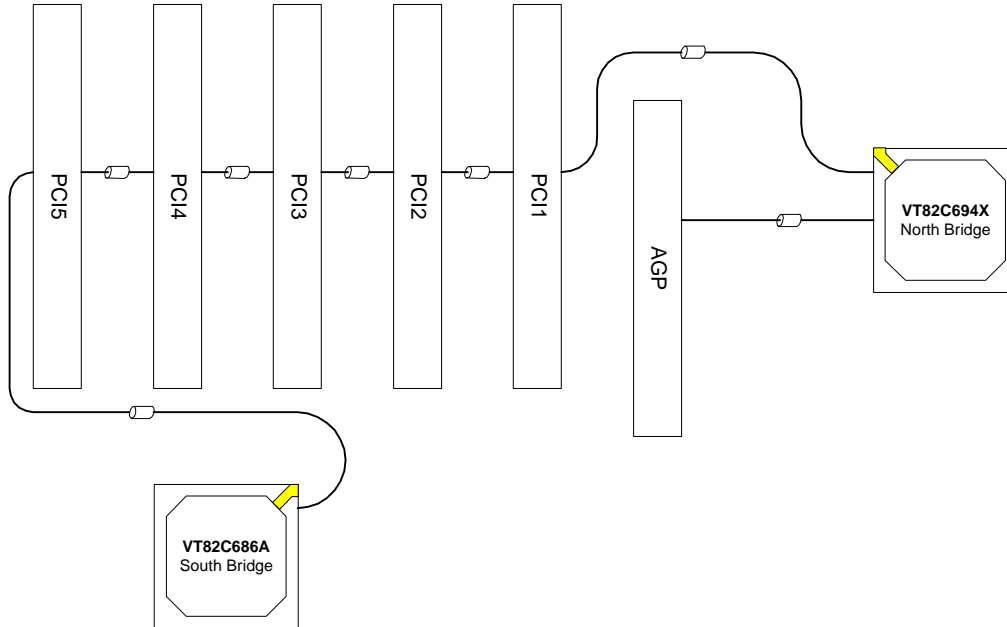

Figure 2-51. Topology Example of AGP and PCI Interface
- Except strobe signals, traces for other AGP signals in Table 2-11 should be a minimum of 5 mils in width and 15 mils in spacing. The trace width of these six strobe signals should be 5 mils. The spacing for each strobe signal should be a minimum of 20 mils to other strobe signals and a minimum of 30 mils to non-strobe signals. Refer to Figure 2-51 for more detail on layout.
It is recommended that the VT82C694X and VT82C686A be placed at both ends of the PCI bus for better signal termination. A topology example of the AGP and PCI buses on an ATX form factor is shown in Figure 2-51 below. PCI signal traces may be placed on either the component layer or the solder layer. Most AGP signal traces should be placed on the component layer.